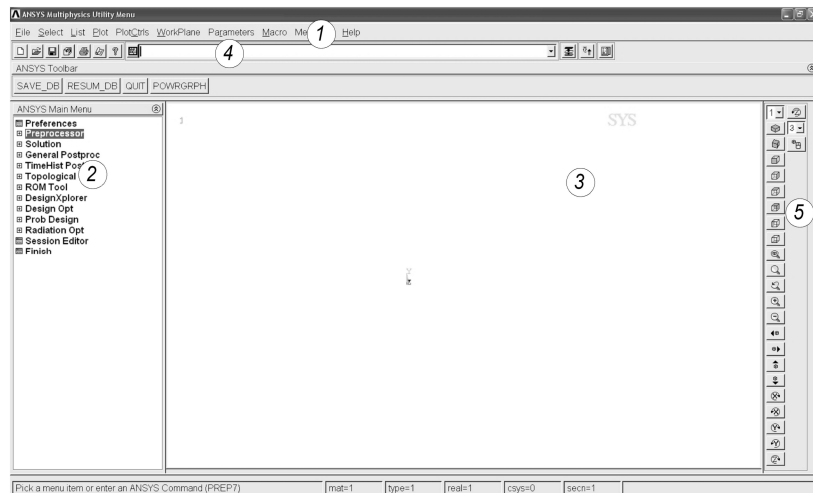

Fig. 1.2. Graphical User Interface
2) After entering the interactive mode, the user's dialogue with the program is carried out through a multi-window "**Graphical User Interface (GUI)**" (Fig. 1.2). Briefly describe some of them.